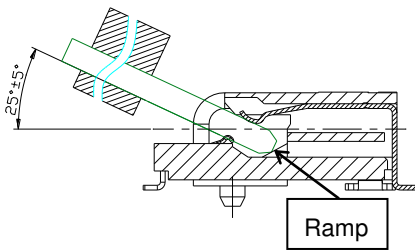

Fig. 6.1
**Step 1st:** Insert the module with angle  $25^{\circ}\pm 5^{\circ}$  until module touch HSG ramp. See (Fig. 6.1).